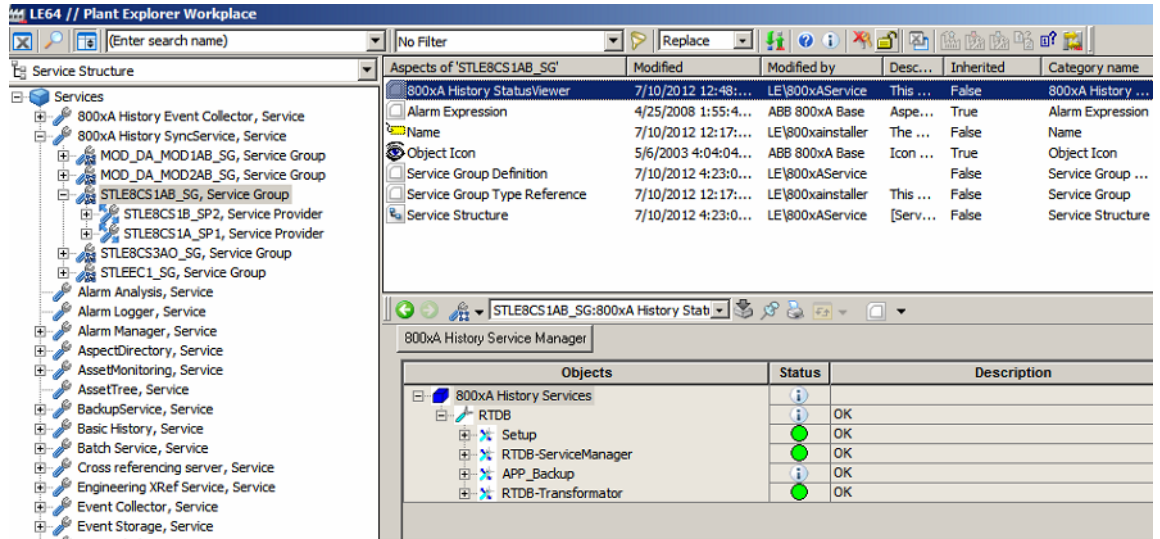

Figure 103. 800xA History Status Viewer
5. Select the **800xA History StatusViewer** aspect as shown in Figure 103.
5. Select **800xA History StatusViewer** as shown in Figure 103.